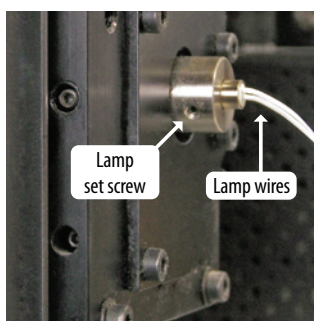
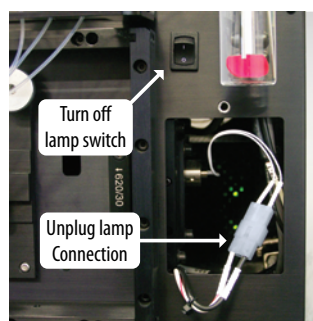

Figure 1. Loosen the set screw and pull the old lamp out by the wires.
Figure 2. Turn off the lamp and unplug the lamp connectors.
- Loosen (DO NOT REMOVE) the set screw on the lamp holder (see **Figure 1**) with the 1.5 mm ball driver from the KinExA accessories kit. Grasp the white wires attached to the lamp and slide the lamp from the holder. Disconnect the electrical connection and remove the expired lamp through the lamp access door (**Figure 2**).